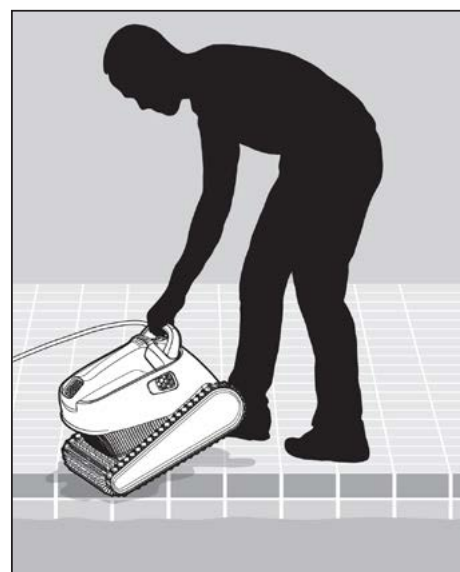

Figure 10
4. Place the cleaner on the edge of the pool and allow excess water to drain from the cleaner body and basket. See **Figure 10**.